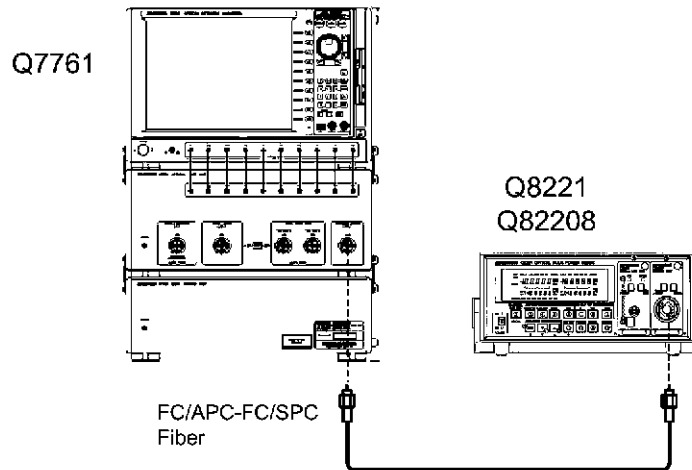

Figure 2-13 Connection for WAVELENGTH MONITOR OUTPUT Output Power Measurement
2. Connect equipment as shown in Figure 2-13.